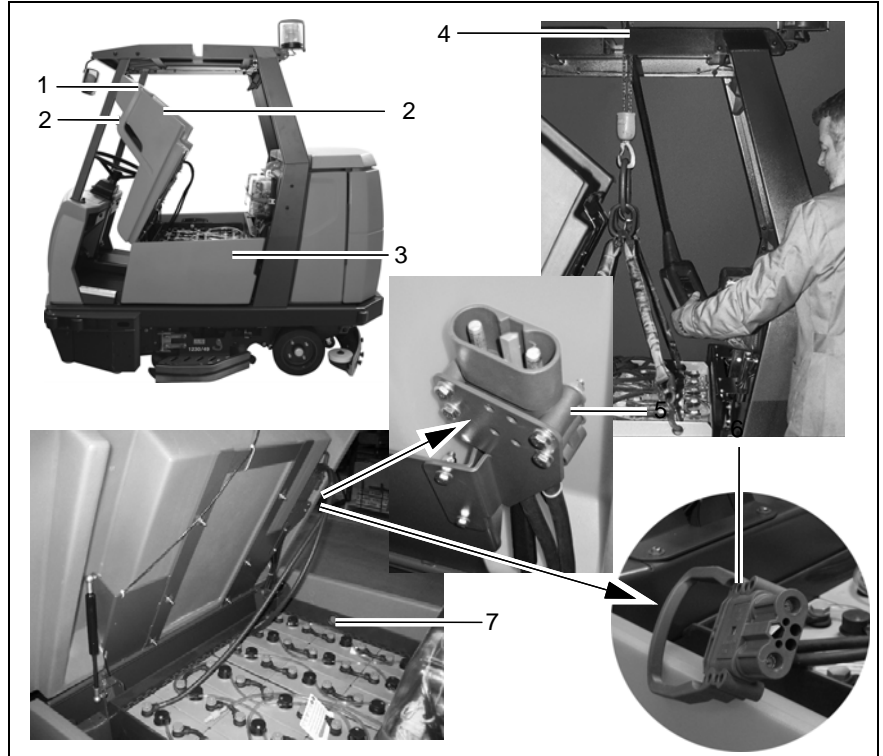

Fig. 26
2. Open the side doors to the left and right (Fig. 26/3).
3. Positioned on the right-hand side of the vehicle, take hold of the seat console at the handle (Fig. 26/2) and pivot up towards the front.
Pivot the seat console (Fig. 26/1) open from the right-hand side of the vehicle otherwise your hands could be crushed between the seat console and cab safety roof (if fitted).
4. Disconnect the battery and vehicle plug (Fig. 26/5+6).
If the scrubber drier is equipped with a cab safety roof, lift the trough battery out on the left-hand side of the battery. The cab safety roof has a recess (Fig. 26/4) for the lifting gear rope.
5. Guide the lifting gear from the left to the battery and hang the hooks in the fitting holes on the battery trough (Fig. 26/7).
1. Open the side doors to the left and right (Fig. 26/3).
2. Take hold of the seat console (Fig. 26/1) at the handle (Fig. 26/2) and pivot it forwards to open it.
Install the trough battery in the vehicle from the left-hand side of the vehicle using lifting gear or a fork-lift truck according to the figure 26.
If the scrubber drier is fitted with a cab safety roof, the trough battery can only be installed from the left-hand side of the vehicle; the cab safety roof is provided with a recess (Fig. 26/4) for the lifting gear rope.
Connect the battery plug (Fig. 26/6) and vehicle socket (Fig. 26/5) to each other. Ensure they are connected firmly.